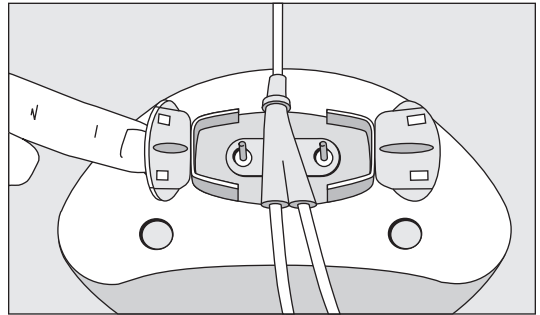
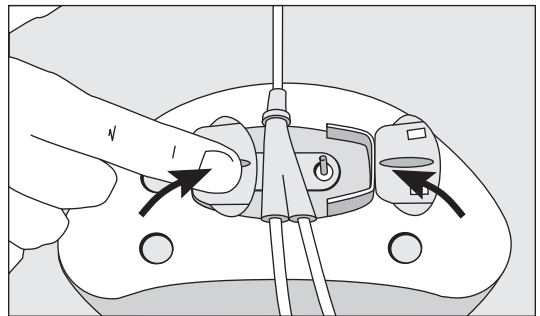

Figure 10
Figure 11
- Place suture hub wings over posts and press down (refer to Figure 10). Snap retainer wings to closed position to secure suture hub (refer to Figure 11).